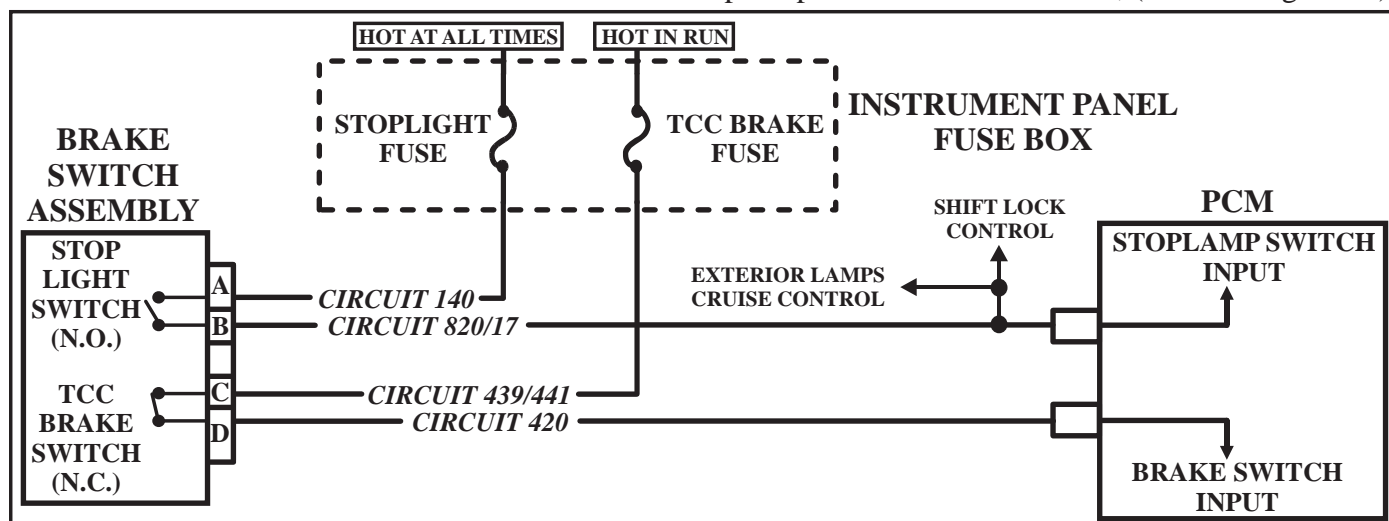

Figure 98
- Circuit 420 is open, (Refer to Figure 98).
- Circuit 420 is shorted to power, (Refer to Figure 98).
- Circuit 420, 820 or 17 is shorted or open, (Refer to Figure 98).
- Circuit 140, 439, or 441 are shorted or open, (Refer to Figure 98).
- Circuit 420 is shorted or open, (Refer to Figure 98).
- Circuit 441 is shorted or open, (Refer to Figure 98).
- If circuit 420 is checked under the above condition, there should be zero volts present, Fig. 98.
- Check the Brake Switch parameter on the scan tool, (You will probably have to switch to engine data). With the brake released, it should display OPEN. There should be no voltage on Circuit 820 or 17, (Refer to Figure 98).
- With the brake applied, the scan tool should display CLOSED which supplies battery voltage on circuit 820 or 17 and illuminates the stop lamps and releases shift lock, (Refer to Figure 98).